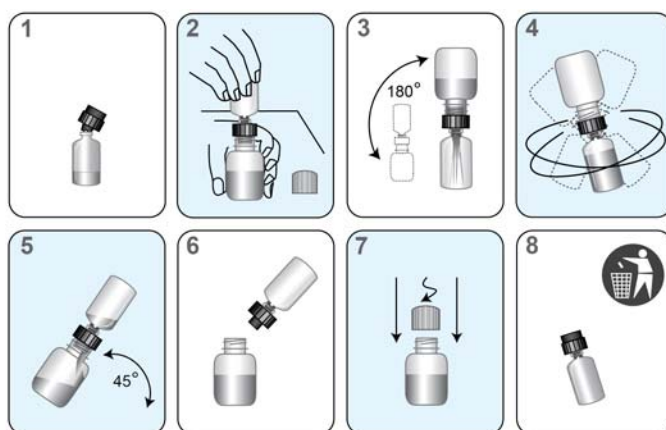

Figure 2. Reconstitution Process
- b. Open the dried reagent vial and firmly insert the notched end of the reconstitution collar into the vial opening (Figure 2, Step 2).
- c. Open the matching reconstitution solution, and set the cap on a clean, covered work surface. While holding the solution bottle on the bench, firmly insert the other end of the reconstitution collar into the bottle opening (Figure 2, Step 2).
- d. Slowly invert the assembled bottles. Allow the solution to drain from the bottle into the glass vial (Figure 2, Step 3). Wait for the lyophilized reagent to go into solution, then gently swirl the solution in the glass vial to mix. Avoid creating foam while swirling the bottle (Figure 2, Step 4).
- e. Invert the assembly and tilt at a 45° angle to minimize foaming (Figure 2, Step 5). Allow all of the liquid to drain back into the plastic bottle.
- f. Remove the reconstitution collar and glass vial (Figure 2, Step 6).
- g. Re-cap the plastic bottle (Figure 2, Step 7). Record operator initials and reconstitution date on all reconstituted reagent vials. Be sure to record the analyte (PCA3 or PSA) on the Probe Reagent vials.
- h. Discard both the reconstitution collar and vial (Figure 2, Step 8).